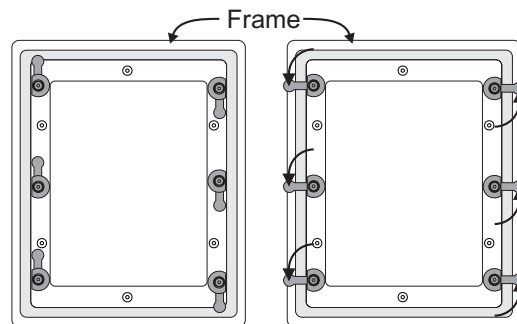

fig.7
6. Now install the frame. The frame attaches to the wall (or iWB bracket) via six plastic mounting clamps on the back of the frame that swivel to "sandwich" the drywall between the speaker assembly and the clamps (fig.7). First rotate the mounting clamps inward so that the body of the frame assembly can slide through the wall. Tighten the screws snugly, making sure not to over tighten, as this may compromise the fit of the frame. The gasket on the drywall side of the frame reduces unwanted vibrations against the drywall and will compress slightly to allow the frames lip to rest flush against the wall. The spring loaded mounting clamps provide tension once installed.